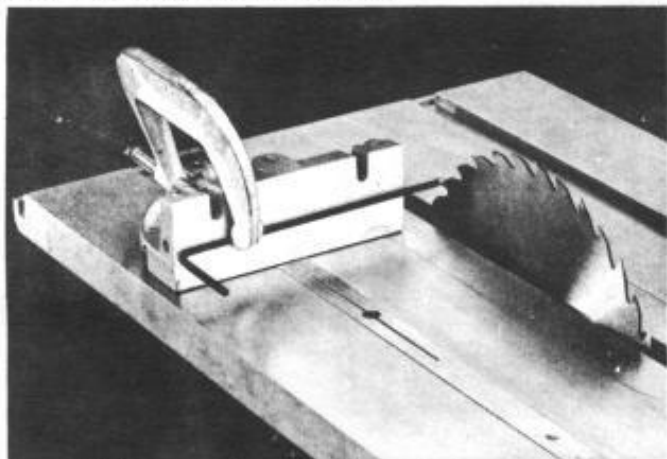

Fig. 7 Table slots must be parallel with saw blade
2... TABLE SLOTS MUST BE PARALLEL TO SAW BLADE. Check by setting table as low as possible in normal sawing position. Place the miter gauge in either slot and clamp the Allen wrench to its face so that it extends just enough to touch one tooth of the blade set in the direction of the miter gauge (Fig. 7). Mark the tooth with a pencil. The miter gauge stop rod, if available, may be used in place of the Allen wrench. Rotate the saw blade backwards by hand until that *same* tooth is at the rear of the insert slot. Move the miter gauge ahead and check to see if the Allen wrench just barely touches that same tooth. If it does not, adjustment is required.